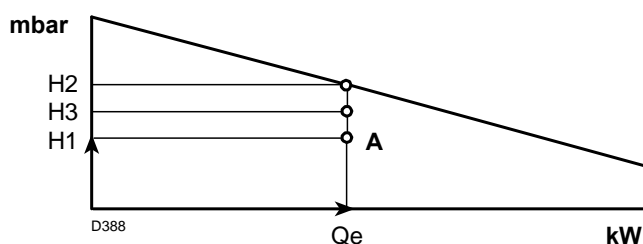

Fig. 41
point A that must remain within the firing rate (Fig. 41)
- 4 - Trace a vertical line from point A, Fig. 41, and find the maximum pressure H2 of the firing rate
If H3 is greater than H1, as in Fig. 41, the burner can produce the delivery requested.